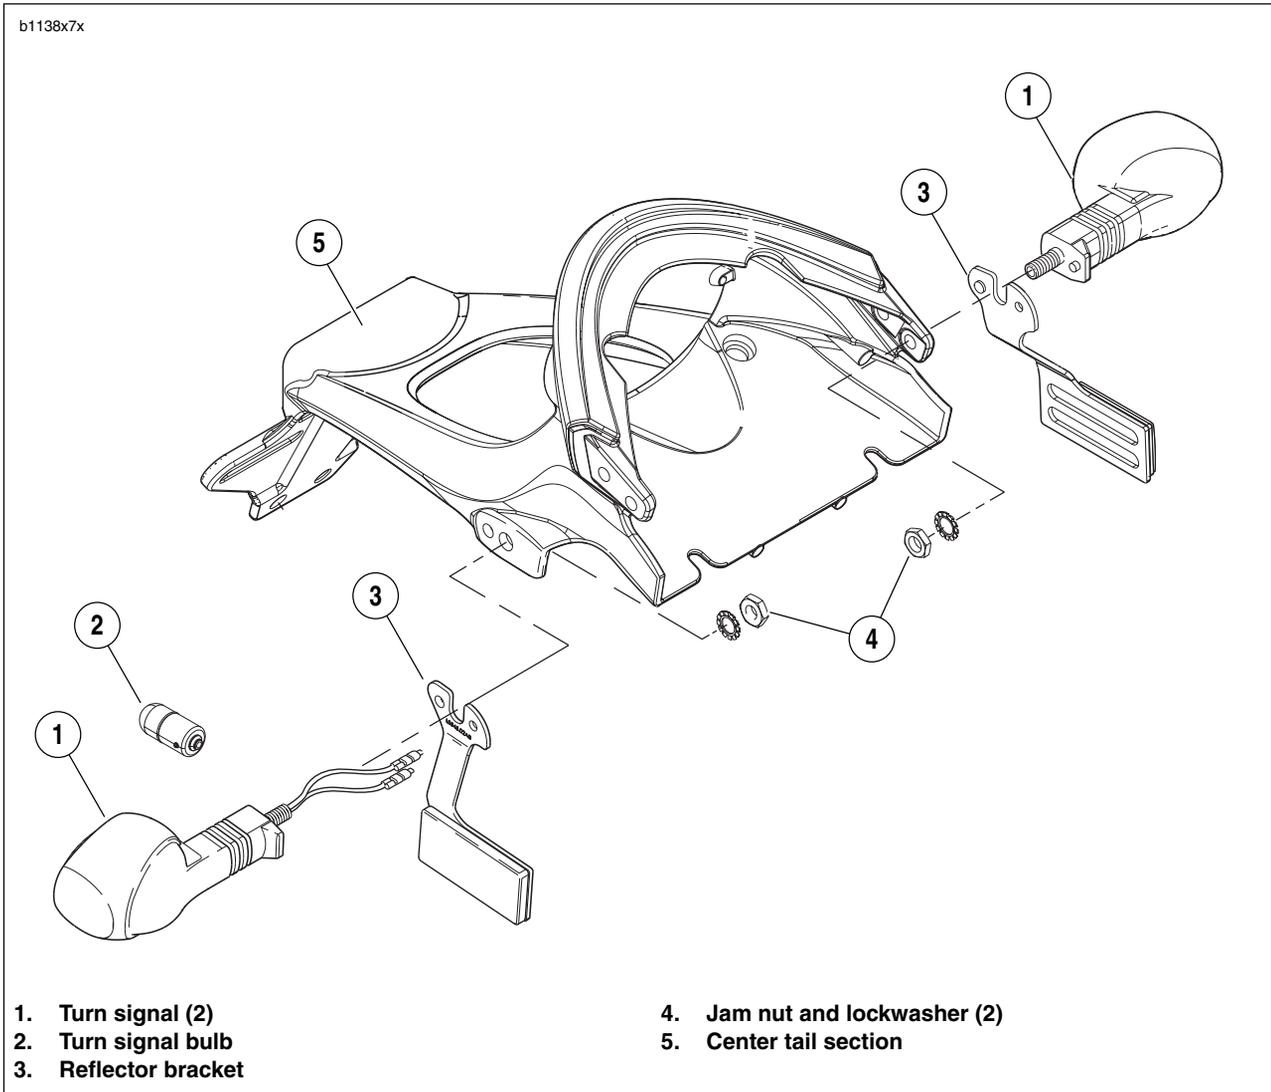

Figure 7-55. Rear Turn Signals
3. See Figure 7-55. Remove fastener and lockwasher (4).
- See Figure 7-55. Attach turn signal using lockwasher and fastener (4). Tighten fastener to 25-28 **in-lbs** (2.8-3.2 Nm).